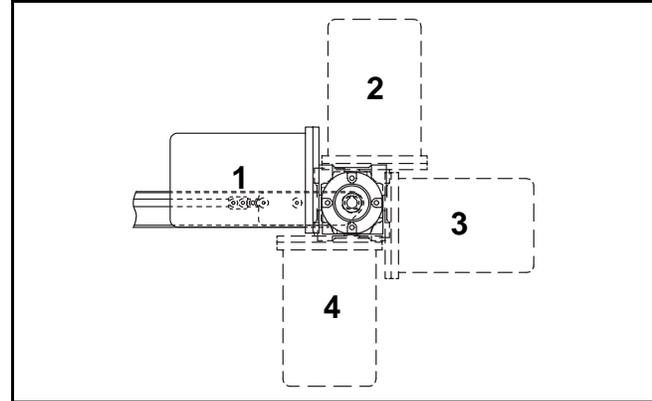

Figure 3
Gearmotor may be operated in positions 1, 2, 3 or 4 (**Figure 3**).
2. If required, change gearmotor position by removing four (4) screws (**Figure 4, item 1**). Rotate gearmotor to other position (**Figure 3**) and replace screws. Tighten to 100 in-lb (12 N-m).